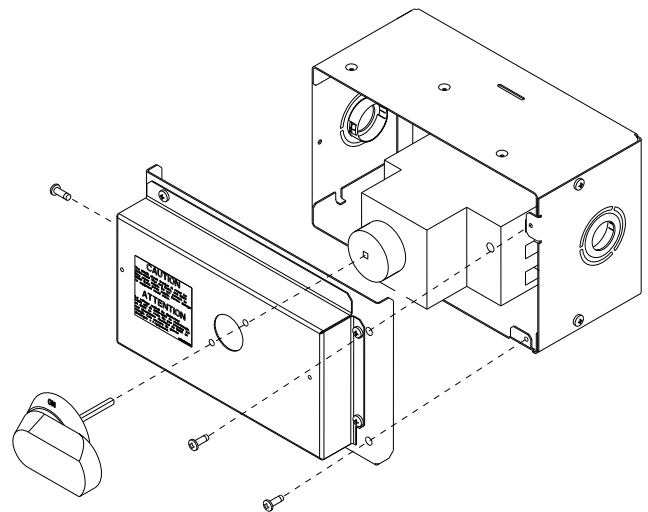

Fig. 22 — HACR Handle and Shaft Assembly
2. Remove (3) cap head screws that secure the HACR enclosure — (2) on the face of the cover and (1) on the left side cover. See Fig. 22.
5. Insert the shaft all the way with the cross pin on the top of the shaft in the horizontal position. See Fig. 22.
9. Secure the handle to the painted cover with (2) screws and lock washers supplied.
10. Engaging the shaft into the handle socket, re-install (3) hex screws on the HACR enclosure.